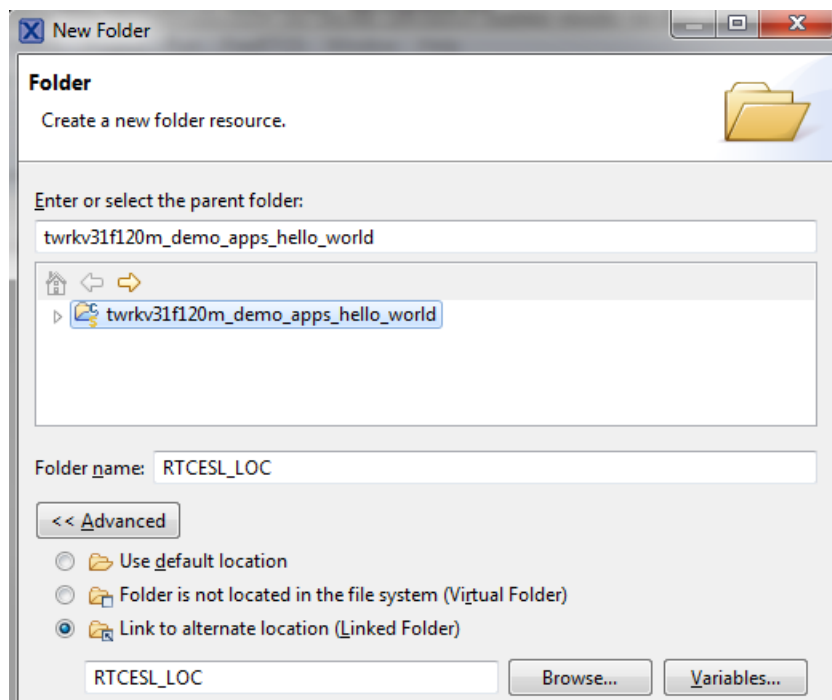

Figure 1-4. Folder link
4. Click Variables..., select the RTCESL_LOC variable in the dialog, click OK, and/or type the variable name into the box. See Figure 1-4.